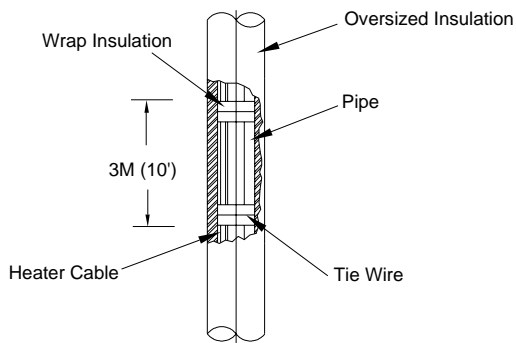

Figure 21
- ☐ Long vertical runs of oversized pipe insulation will experience temperature piling (heated air circulating upward). This can be reduced by installing air baffles at approx. 3m (10') intervals. See **Figure 21**.